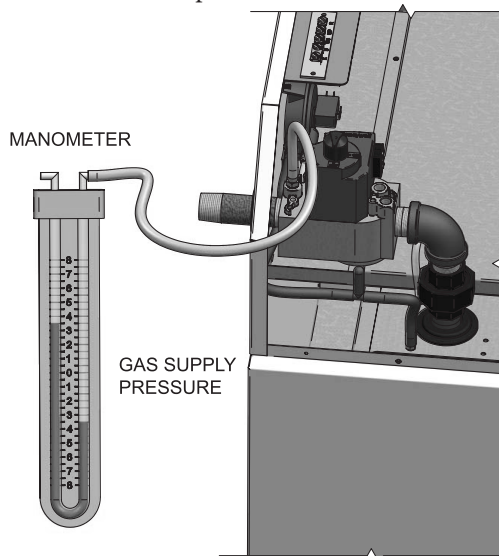

Figure 3-3_Gas Supply Pressure Measurement - Models ER152 - ER202
3. On ER152 - ER202 models remove the 1/8" hex plug, located on the "inlet" side of the gas valve. An inlet pressure tapping is located on the top side of the valve body (see FIG. 3-3).